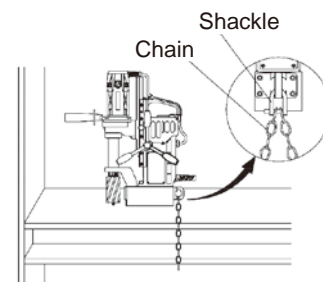

Fig. 4
- This machine comes with a chain. The chain is to be used to fasten the machine to the work piece. If you do not use the chain, it is possible that the machine may fall. (Fig.4)